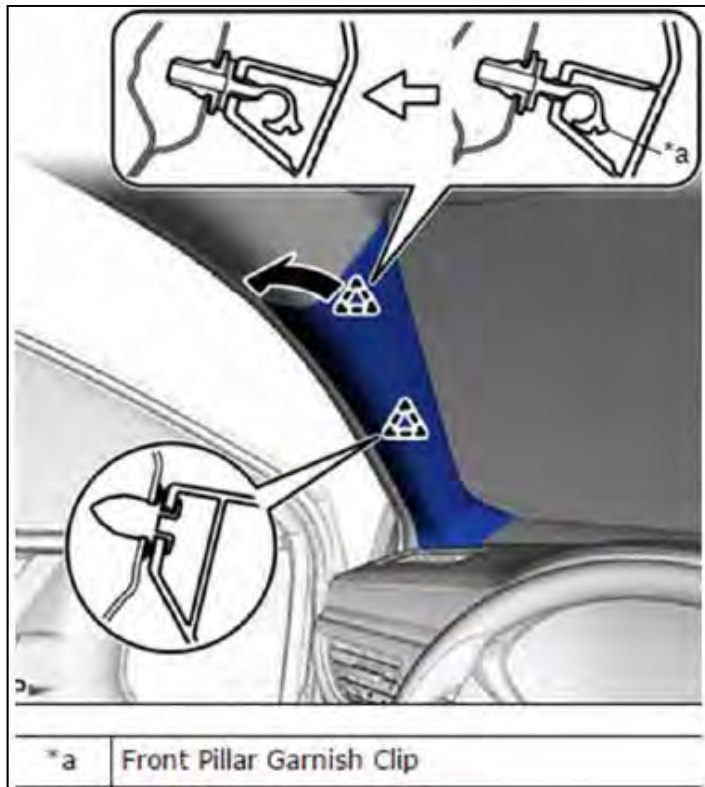

Figure 24
24. Engage the clip and front pillar garnish clip to install the front pillar garnish assembly LH. See figure 24.